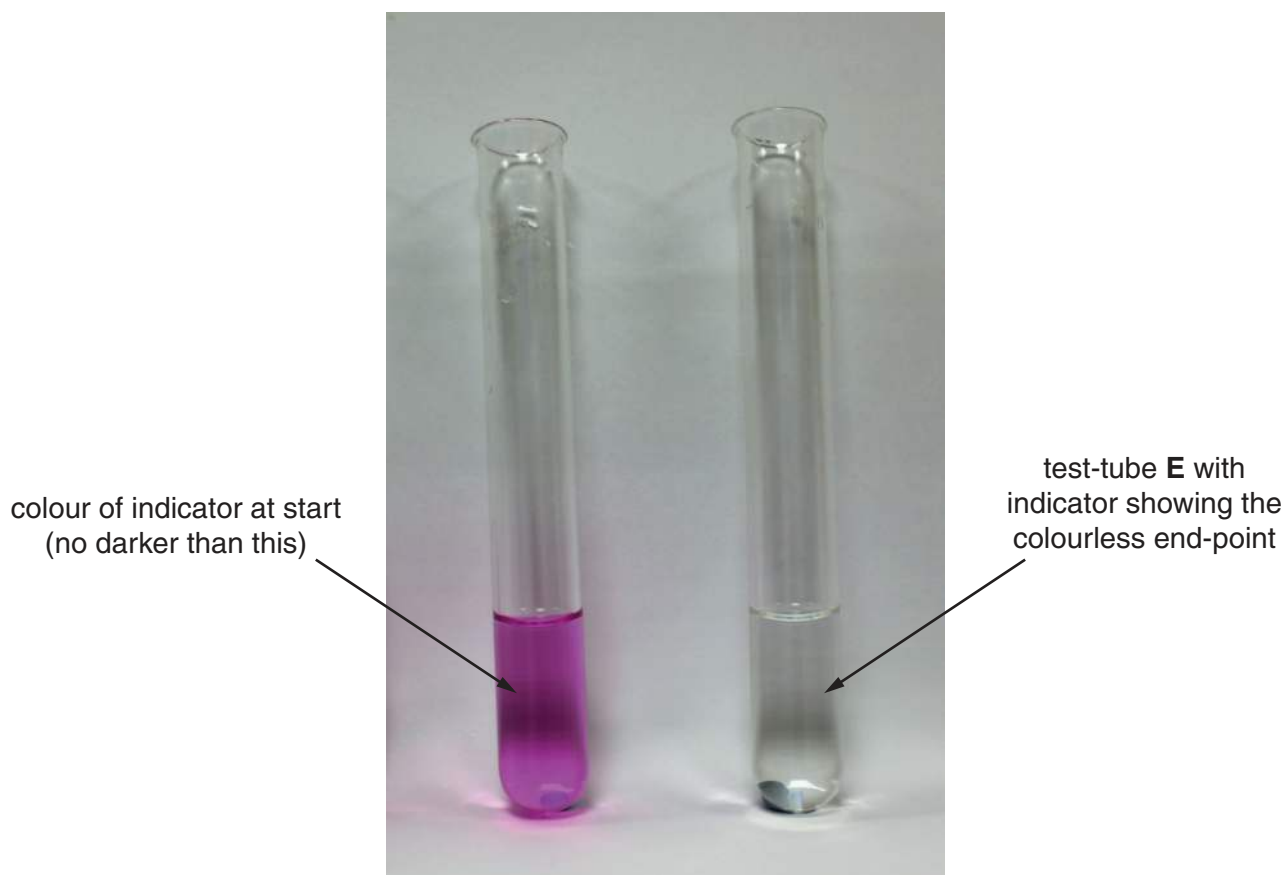

Fig. 1.1
The pink indicator, **P**, will become colourless when carbon dioxide is added. This is the end-point as shown in Fig. 1.1.
- You are required to put drops of **A** into the solution until it becomes a pink colour. The colour should not be darker than the pink colour shown in Fig. 1.1.